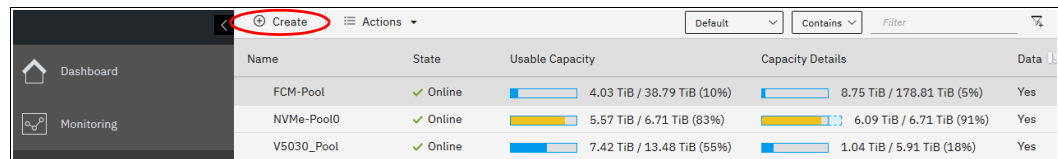

Figure 5-3 Option to create a storage pool in the Pools window
1. Select **Pools** → **MDisks by Pools** and click **Create Pool**, or select **Pools** → **Pools** and click **Create**, as shown in Figure 5-3.